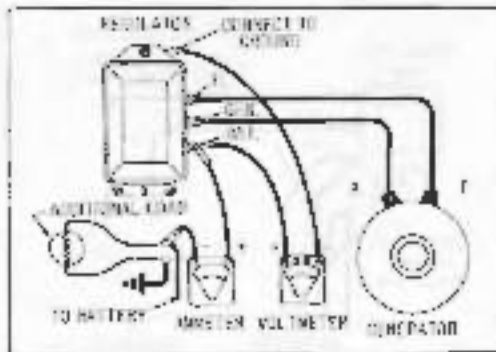

Figure 51-4.
D. TESTING CURRENT CONTROL UNIT SETTING ON 3 UNIT REGULATORS (FIG. 51-4)